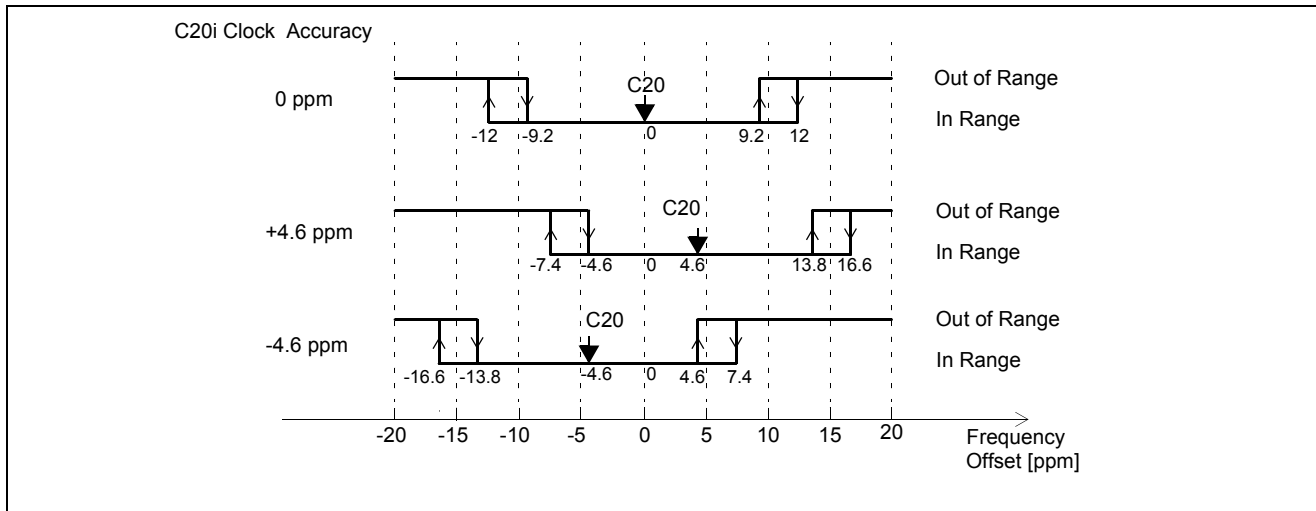

Figure 7 - Primary and Secondary Reference Out of Range Thresholds
- **Slow Response Detector (High Precision):** This detector detects if the primary reference is off its nominal frequency by more than ± 12 ppm. The frequency offset monitor updates internally every 10 sec and will change state after two matching measurements (PASS/PASS or FAIL/FAIL). This is in full compliance with the GR-1244-CORE requirement of 10 to 30 sec Reference Validation Time. This output returns to zero when the reference frequency is requalified within ± 9.2 ppm of the nominal frequency (monitor circuit has built-in hysteresis). In an extreme case, when over time the Master Clock oscillator drifts ± 4.6 ppm the switching thresholds will change as well, as is shown in Figure 7.